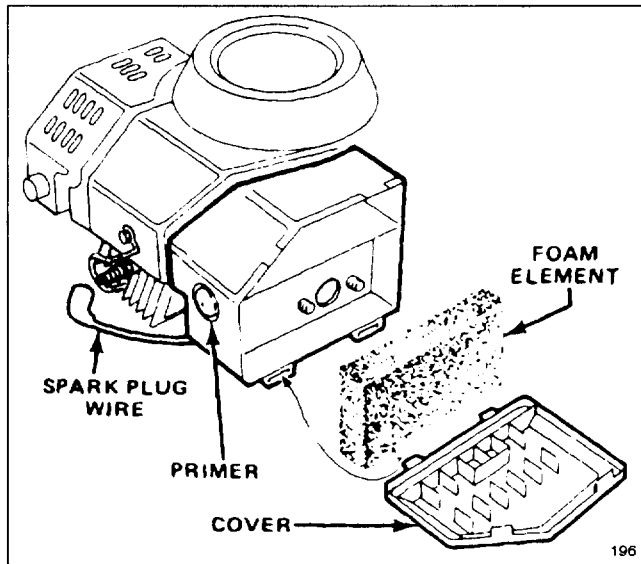

Figure 18
1. Stop engine and pull wire off spark plug (Fig. 18).
- 1. Stop engine and pull wire off spark plug (Fig. 18).